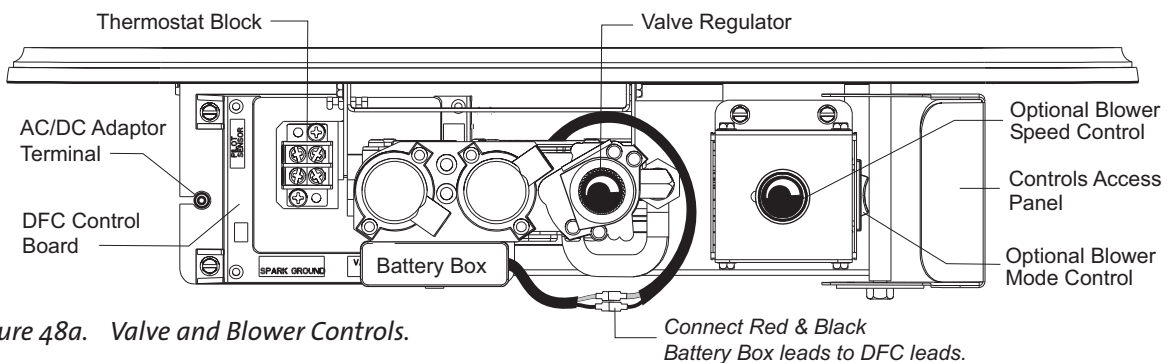

Figure 48a. Valve and Blower Controls.
2. Connect the AC/DC Power Adaptor to the terminal on the back of the DFC board bracket. See fig. 48a. Connect the adaptor plug to 110 VAC house current.
6. Flame intensity can be adjusted manually by turning the Valve Regulator knob shown in Fig. 48a.